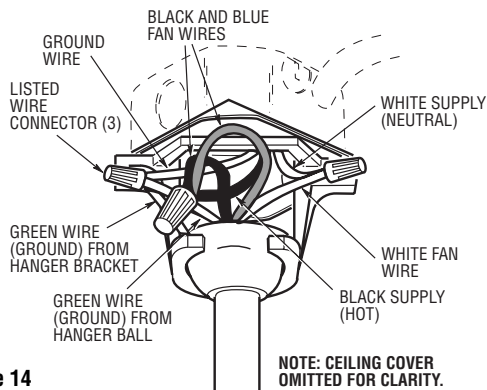

Figure 14
2. Securely connect the fan motor white wire to the supply white (neutral) wire using wire connector supplied (Figure 14). Securely connect the fan motor black wire and blue wire to the supply black (hot) wire using wire connector supplied (Figure 14). After connections have been made, turn leads upward and carefully push leads into the outlet box, with the green equipment-grounding conductor and white grounded neutral conductor on one side of the outlet box and the black and blue ungrounded conductors on the other side of the outlet box.